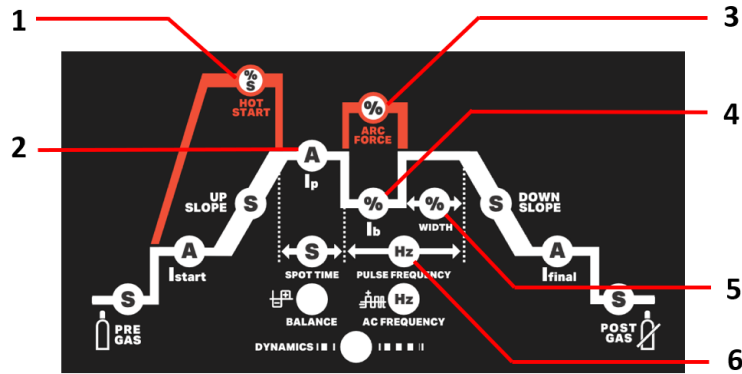

Fig. 2 – MMA parameters
For TP 204 ACDC (See items in Fig. 2)
- Adjust the current value to the diameter of the electrode (Fig.2 - 2), according to the following table, to adjust the machines according to the electrode to be used and start welding